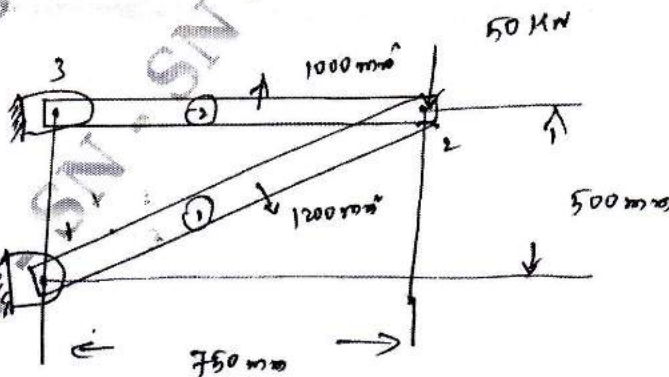

Fig. Q6 (b)
- b. For the two bar truss shown in Fig. Q6 (b). Determine the nodal displacement and the stress in each member. Also find the support reaction. Take $E = 200 \text{ GPa}$.